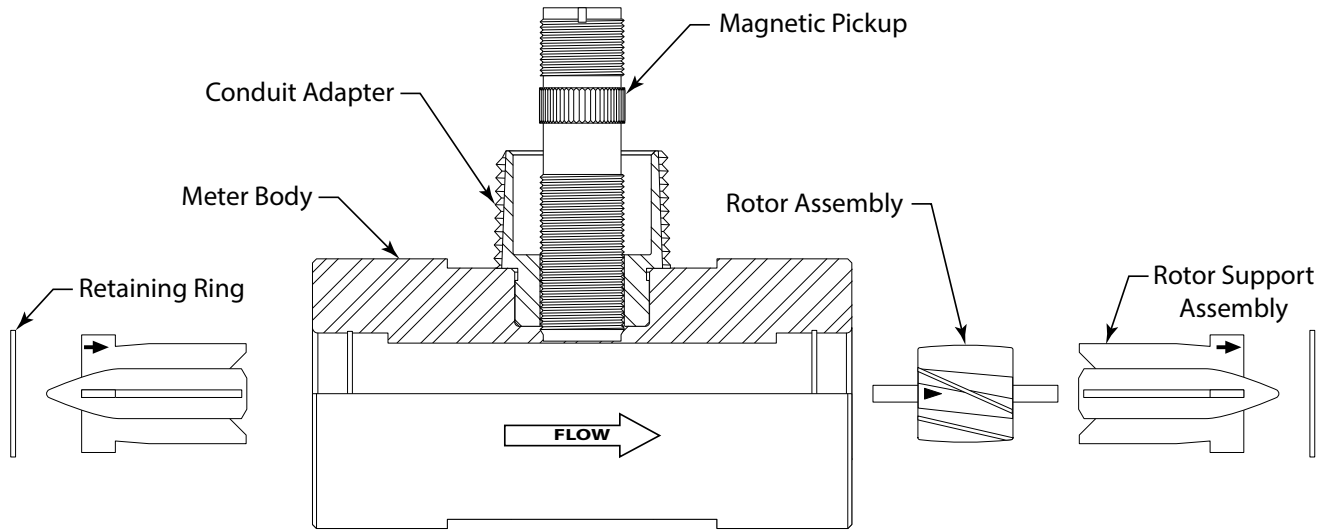
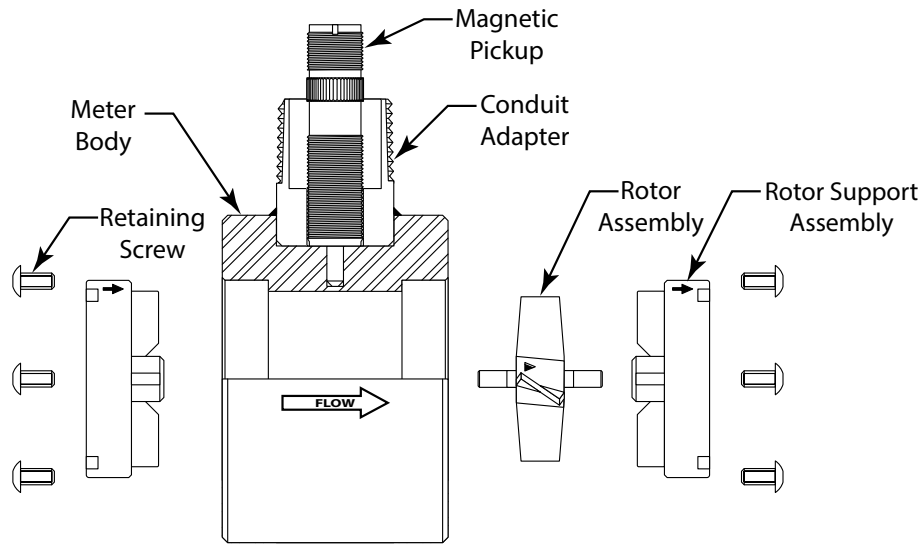

Figure 1: Relative positions of internal components for all QuikSert meter sizes B131-038 through B131-100
Figure 2: Relative positions of internal components for all QuikSert meter sizes B132-050 through B139-900
1. Refer to *Figure 1* and *Figure 2* for relative positions of repair kit components.
Figure 1 and Figure 2 show the proper alignment and orientation of the repair kits.
NOTE: Meters 2 inches and larger will have retaining screws on both ends of the meter (see *Figure 2*).
NOTE: Meters 2 inches and larger meters will have retaining screws on both ends of the meter (see *Figure 2*).